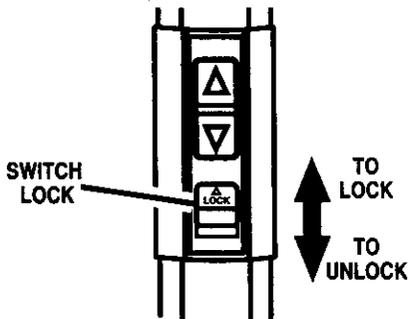

Fig. 2
See Figure 2.
- Lock switch trigger by sliding the lock button forward. See Figure 2.